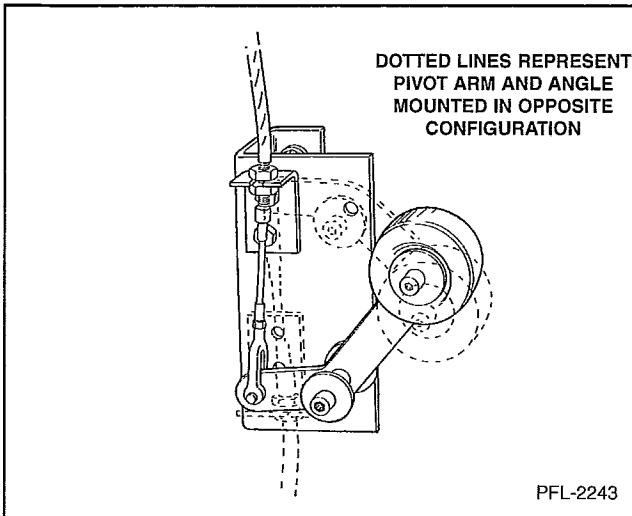

Figure 9
3. If you need to change roller arm assembly to opposite configuration, unbolt angle and pivot arm and reassemble in new location. See Figure 9.